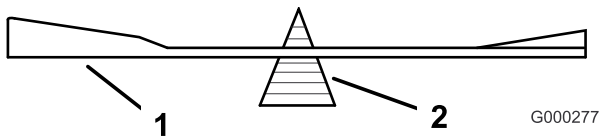
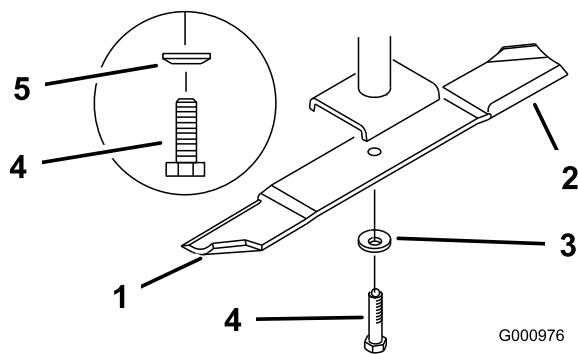

Figure 87
Figure 88
2. Remove the blade bolt, spring disk and blade from the spindle shaft (Figure 88).
2. Check the balance of the blade by putting it on a blade balancer (Figure 87). If the blade stays in a horizontal position, the blade is balanced and can be used. If the blade is not balanced, file some metal off the end of the sail area only (Figure 88). Repeat this procedure until the blade is balanced.
1. Install the blade onto the spindle shaft (Figure 88).
2. Install the spring disk and blade bolt. The spring disk cone must be installed toward the bolt head (Figure 88).